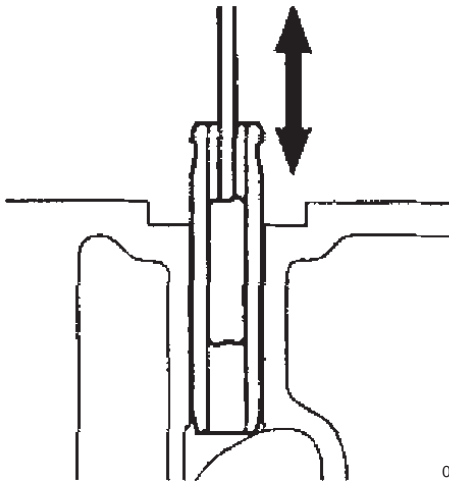

Figure 5-21
6. Clean all valve guide internal surfaces using a brush and solvent (**Figure 5-21**).